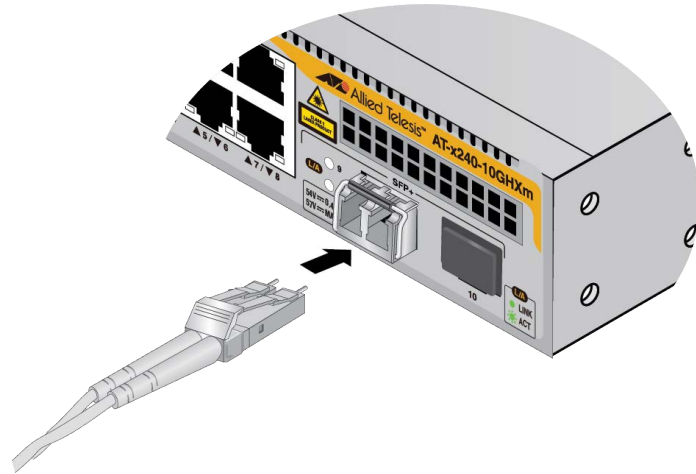

Figure 58. Connecting a Fiber Optic Cable to an SFP or SFP+ Transceiver
7. Connect the fiber optic cable to the transceiver, as shown in Figure 58 on page 91.